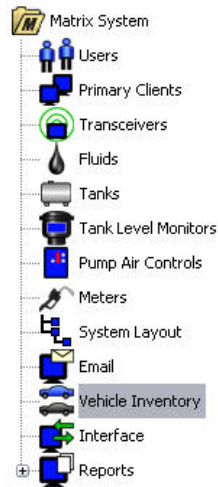

FIG. 162
1. Select **Vehicle Inventory** from the list on the Matrix System Panel (FIG. 162).